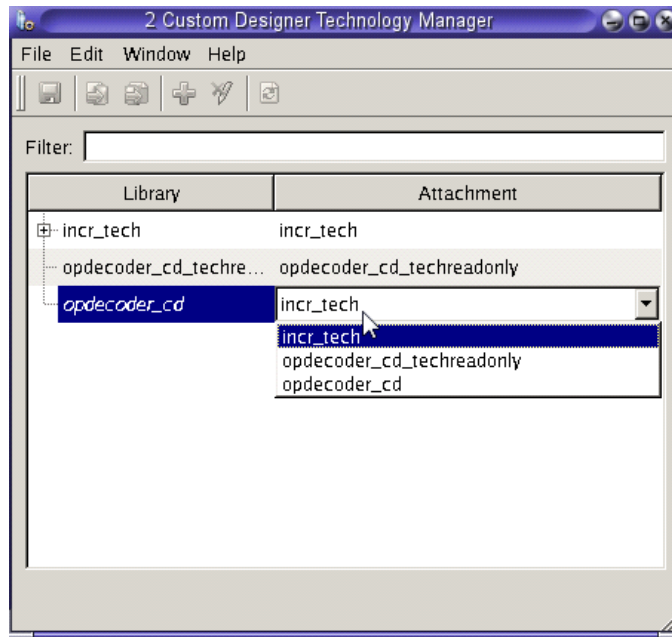

Figure 27 Technology Manager in Custom Designer
3. Using the Technology Manager, set `incr_tech` library as tech reference for `opdecoder_cd` library, as shown in Figure 27: